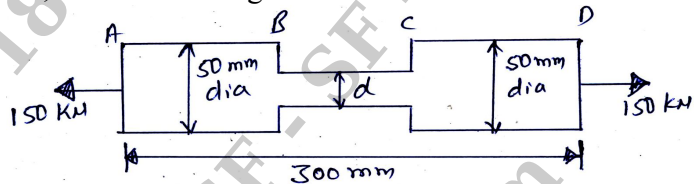

Fig.Q1(c)
- c. A steel bar is subjected to tensile load of 150 kN as shown in Fig.Q1(c). Find the diameter of the middle portion if the stress in that portion is limited to 140 N/mm². Find also the length of the middle portion, if the total elongation of the bar is 0.16mm. Take $E = 2 \times 10^5 \text{ N/mm}^2$.